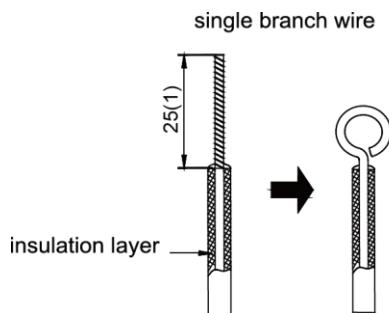

Fig. 5.1.1
- (1) The connection of wire (as shown in fig. 5.1.1)